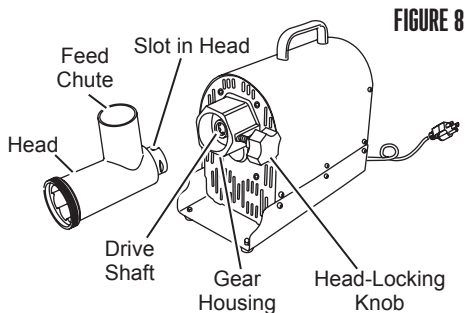

FIGURE 8
1. Make sure Meat Grinder is unplugged. Insert the Head into the Gear Housing with the feed chute of the Head facing straight up. You will need to line up the slot in the Head with the Key inside the Gear Housing. Be sure the Head is seated fully into the Gear Housing (**FIGURE 8**).